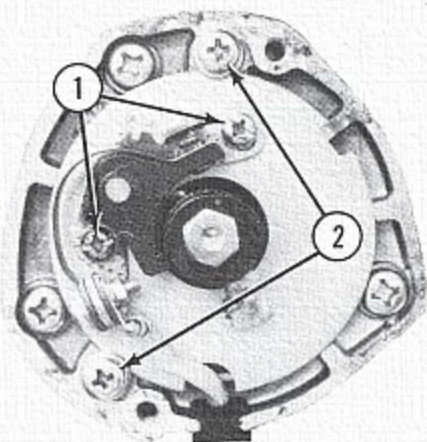

Fig. 58 Contact Point Assembly — Honda Single Cylinder Engine With Adjustable Base Plate
1. Check dwell angle or contact point gap. If adjustment is required, loosen contact point locking screws ① (Fig. 58). Adjust contact point gap to achieve the dwell angle specified in the shop manual, or adjust gap to 0.3 - 0.4mm (0.012 - 0.016 in.). Tighten locking screws. Recheck dwell angle or gap after locking screws are tightened.
2. Check ignition timing. If adjustment is required, loosen base plate locking screws ②. Rotate base plate to achieve correct ignition timing. Tighten locking screws. Recheck dwell angle or gap, and timing, after locking screws are tightened.